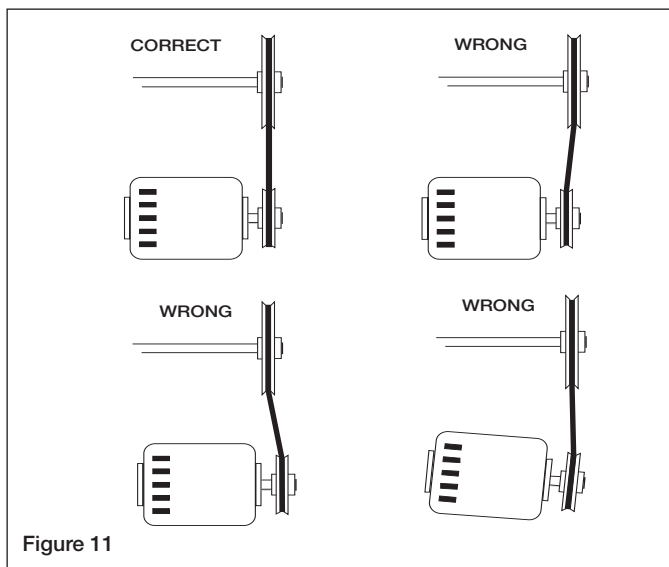

Figure 11
4. **For BSQ Fans:** If adjustments are made, it is very important to check the pulleys for proper alignment. Misaligned pulleys lead to excessive belt wear, vibration, noise, and power loss. (see Figure 11 on next page).